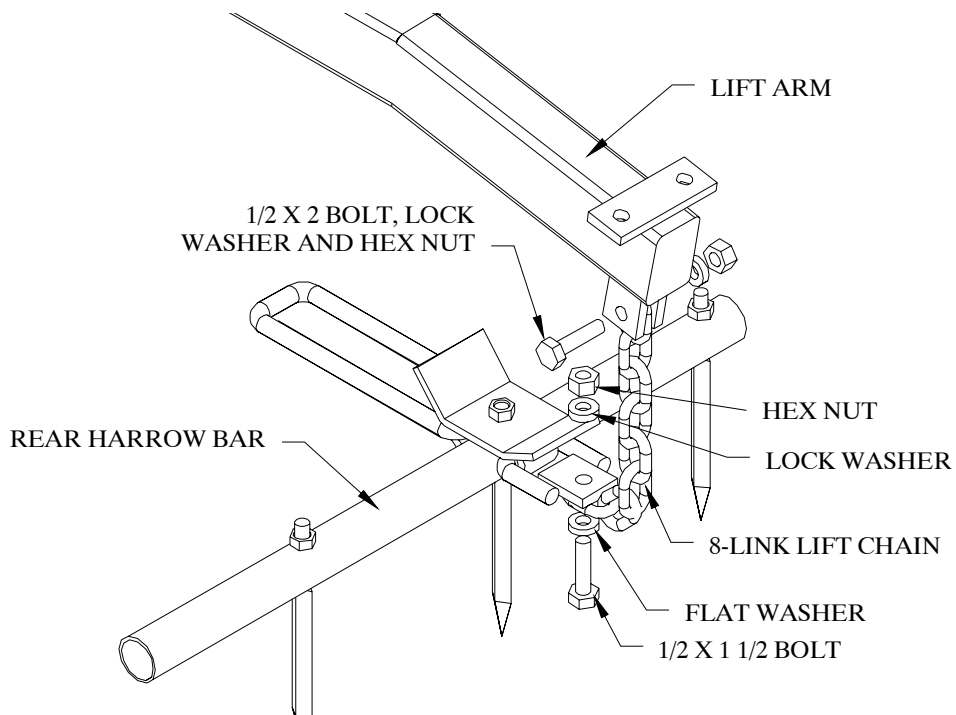
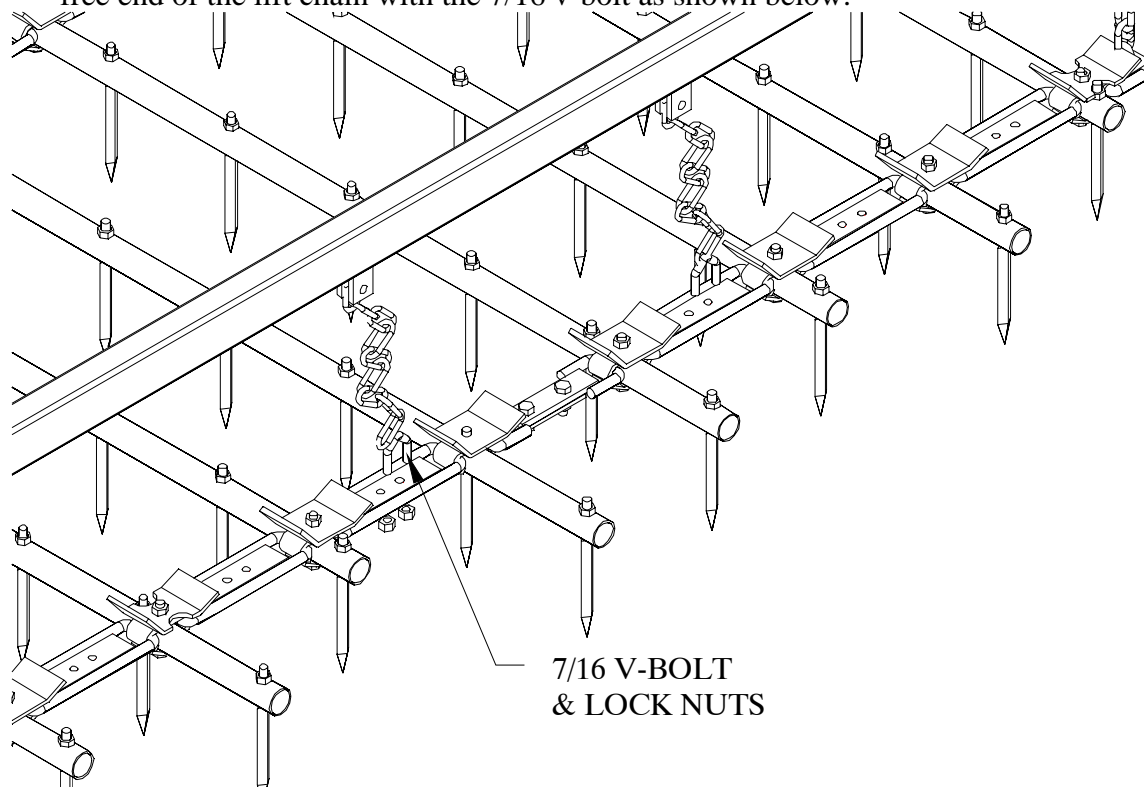

Figure 5
Figure 6
2. Attach the two center lift chains on each arm as shown in figure 6. Bolt the 10-link lift chain to the lift arm using $\frac{1}{2} \times 2$ bolts lock washers and hex nuts as shown in figure 5. Attach the free end of the lift chain with the $\frac{7}{16}$ v-bolt as shown below.